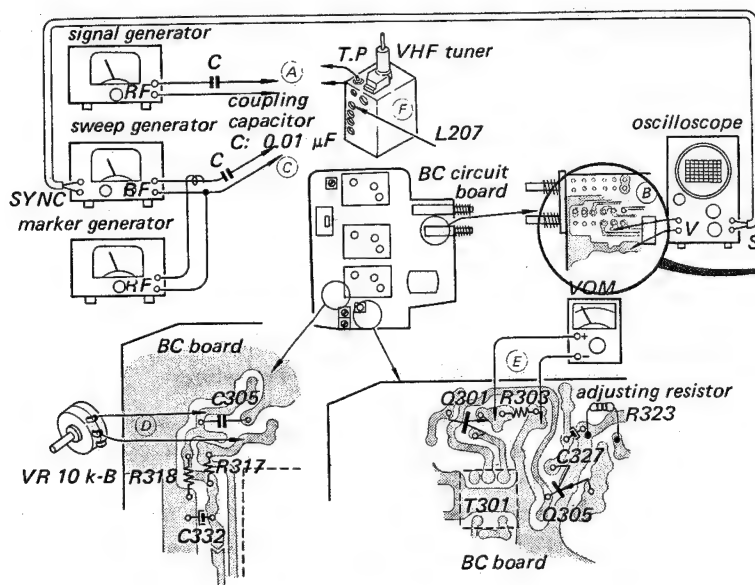

Fig. 19
6. Set a resistor R323 (18k - 20k ohms) for a reading of 1.25 - 1.35 volts. (See Fig. 19).
1. Connect a signal generator to the test point of tuner through a $0.01 \mu F$ capacitor (① in Fig. 19).
2. Connect a scope to the VIF output terminal (VIDEO OUT) through a noise filter consisting of a 10k-ohm resistor and 200pF capacitor (② in Fig. 19).
9. Connect the sweep/marker generator to the test point (C in Fig. 19).
10. Connect a rheostat (10k-ohm) to the point indicated with (D) in Fig. 19.
11. Connect a VOM across a resistor R303 (E in Fig. 19).
16. Adjust L207 in the tuner when satisfactory VIF response curve is not obtained by foregoing procedures (F in Fig. 19).